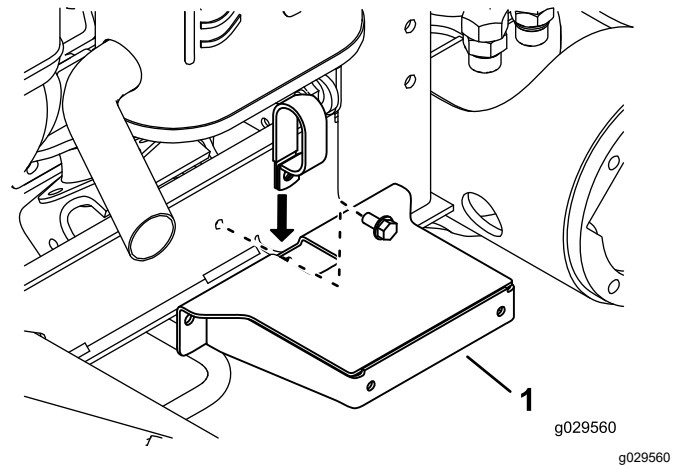

Figure 18
5. Insert the bottom of the hose clamp through the slot in the top of the fender mount (Figure 18).
11. Loosely mount the hose clamp and fender mount to the frame channel with the hose clamp, bolt, and nut (see Figure 18).